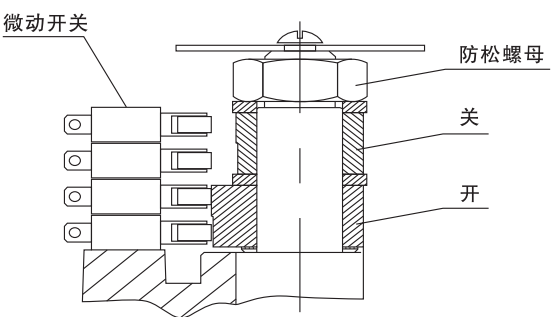
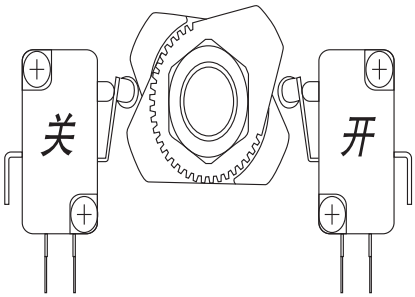

图13
图14
9.1 行程限位的调整 (图13，图14) Adjustment of stroke limit